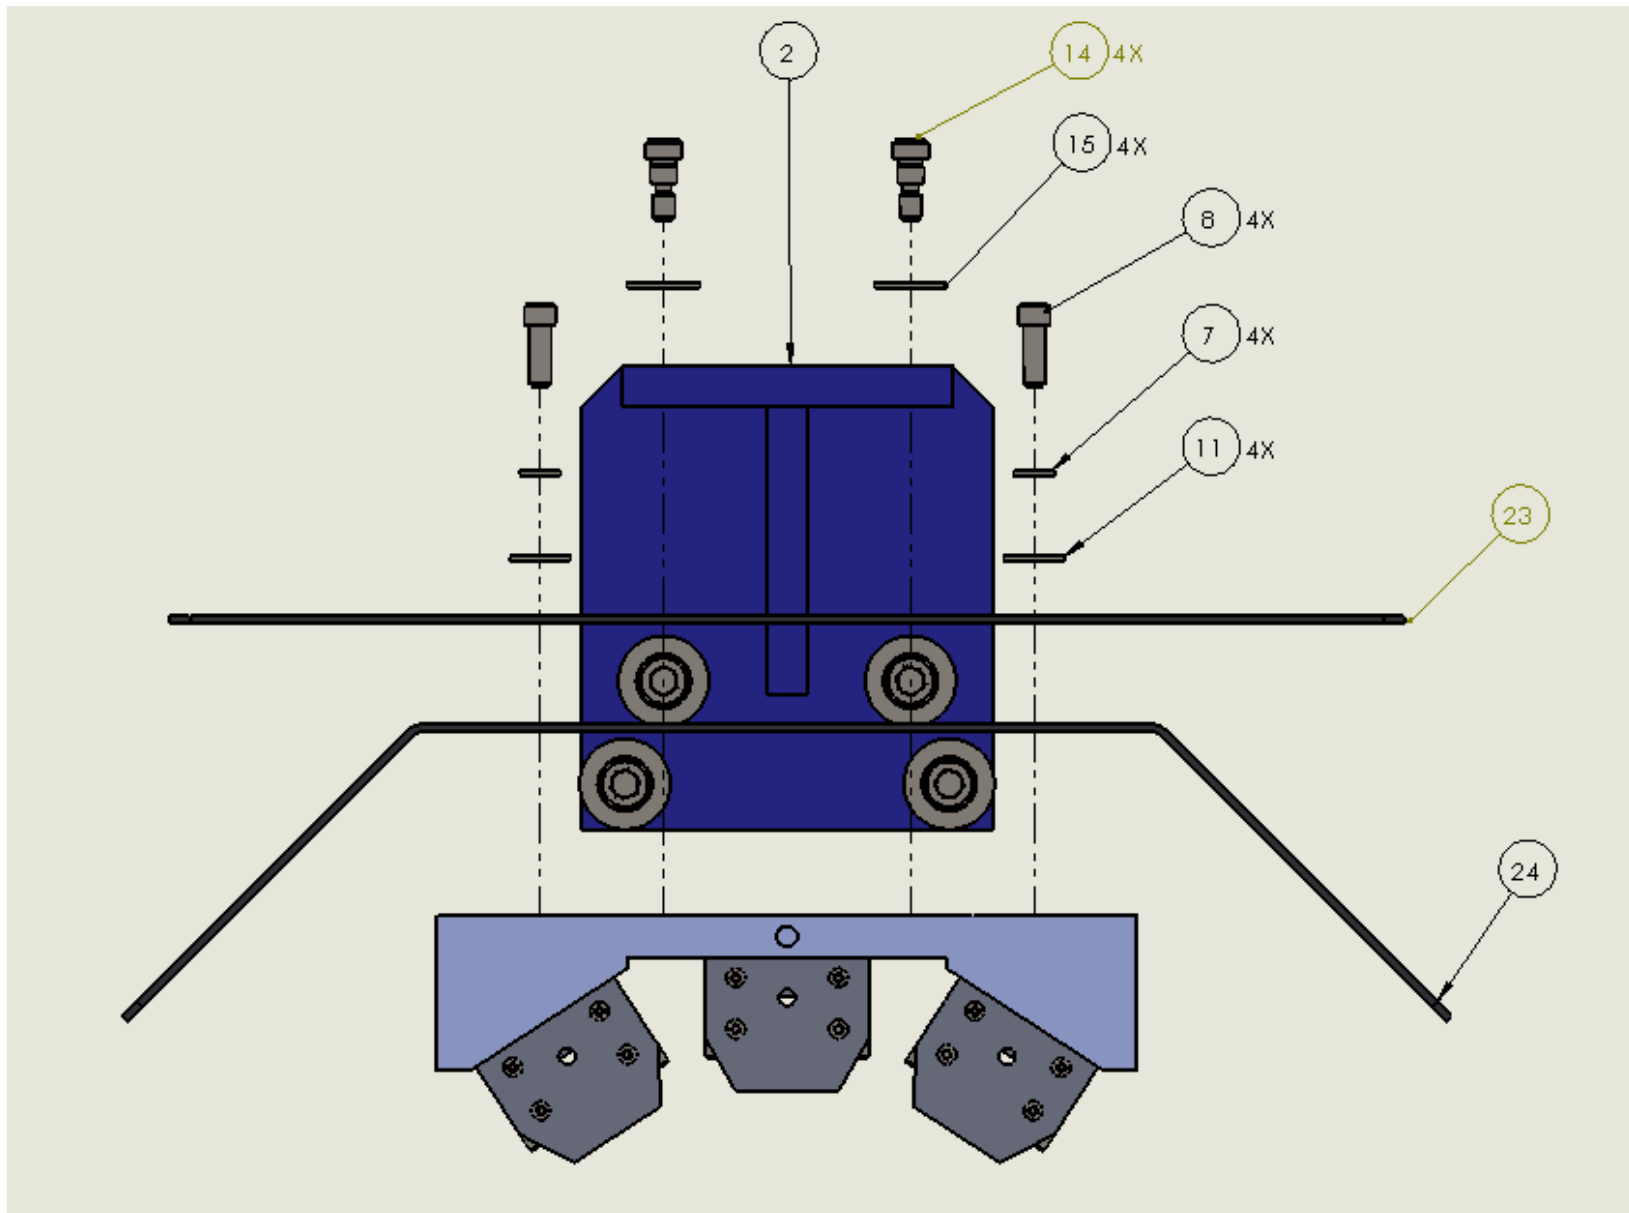

Figure 7 – Assembly of 202007 block onto upper bracket with heat sinks
8. Install upper light block as shown in figure 7.